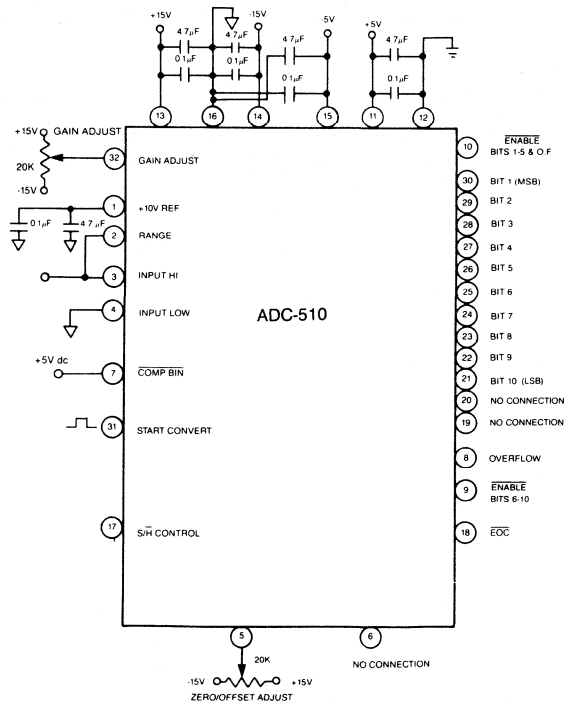

Figure 3. ADC-510 Calibration Circuit
1. Connect the converter per Figure 3 and Table 2 for the appropriate full-scale range (FSR). Apply a pulse of 50 nanoseconds minimum to the START CONVERT input (pin 31) at a rate of 500 kHz. This rate chosen to reduce flicker if LED's are used on the outputs for calibration purposes.